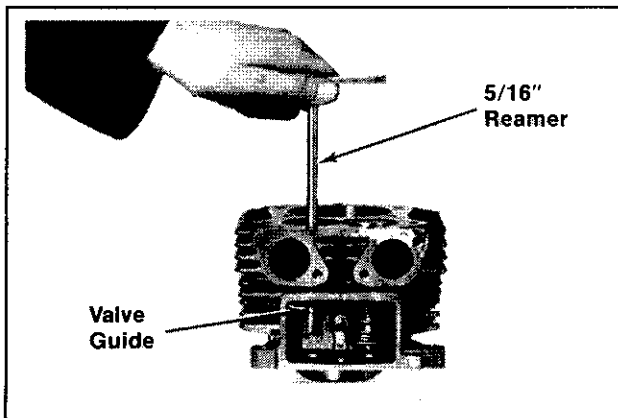

Figure 10-8. Reaming Valve Guide.
3. Valve guides are often slightly compressed during insertion. Use a piloted reamer (Refer to Section 2, "Special Tools") and then a finishing reamer to resize the guide bore to **.3125"**. Refer to Figure 10-8.